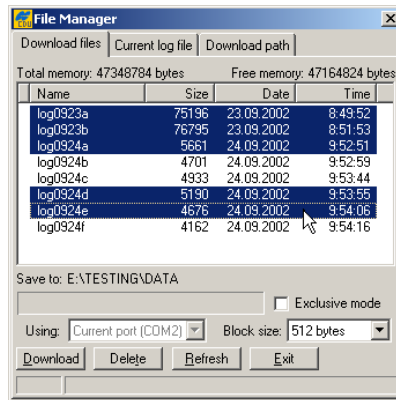

Figure 5-11. Download Files
- Click the **Download files** tab, and select the file(s) to download (Figure 5-11 on page 5-7).